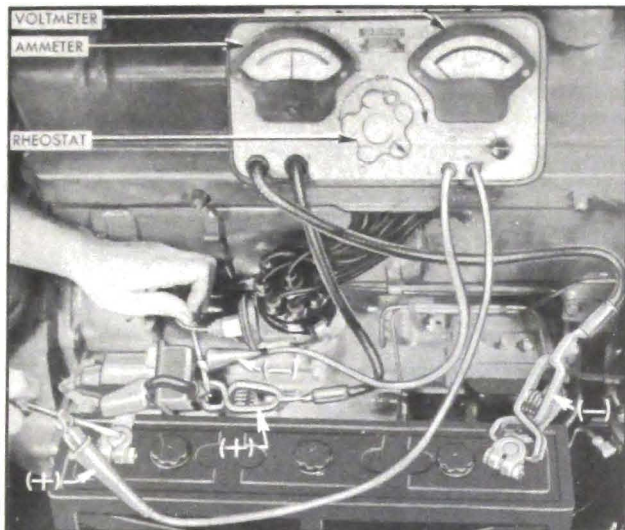

Figure 10-7—Testing Battery Cables and Connections with Voltmeter, Ammeter, and Rheostat
2. Connect ammeter positive (+) lead to battery terminal stud on cranking motor solenoid switch. Connect ammeter negative (-) lead to one side of rheostat and connect other side of rheostat to ground on engine, preferably at point where battery ground strap is attached. In the instrument shown in figure 10-7 the ammeter and rheostat are connected in series inside the case.
3. Connect voltmeter negative (-) lead to battery terminal stud on solenoid switch. Use a prod with voltmeter lead, if necessary, to insure direct contact with the terminal stud. *Do not connect to the ammeter lead clip.* Attach a prod to voltmeter positive (+) lead and apply the prod to *center* of battery positive (+) post (fig. 10-7). Make sure that clips of voltmeter